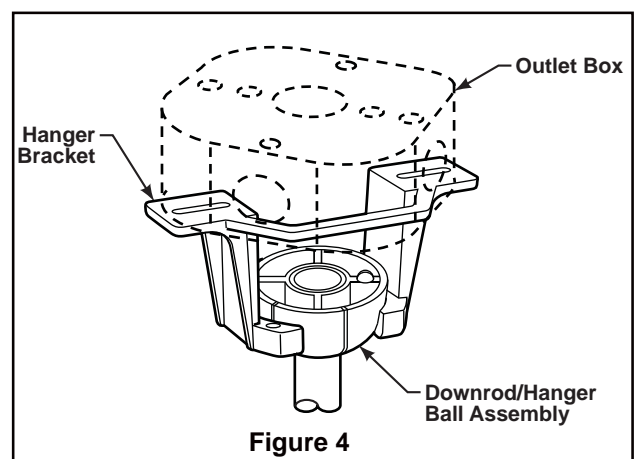

Figure 4
- 4. Slide downrod into the downrod support on top of the motor. Install the clevis pin by aligning the holes in the downrod support with holes in the downrod. Secure clevis pin with hairpin clip. Tighten the two set screws with nuts in the downrod support. (Figure 4)
- 2. Carefully lift the fan and seat the downrod/hanger ball assembly on the hanger bracket that was just attached to the outlet box. Be sure the groove in the ball is lined up with tab on the hanger bracket. (Figure 4)